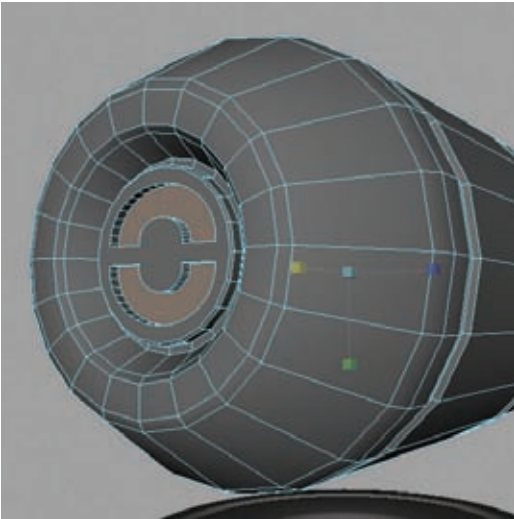

Figure 8.12
9. With your window shape complete, use a Difference Boolean operation to cut the shape into the ends of the canister. You can see how mine turned out in Figure 8.12.